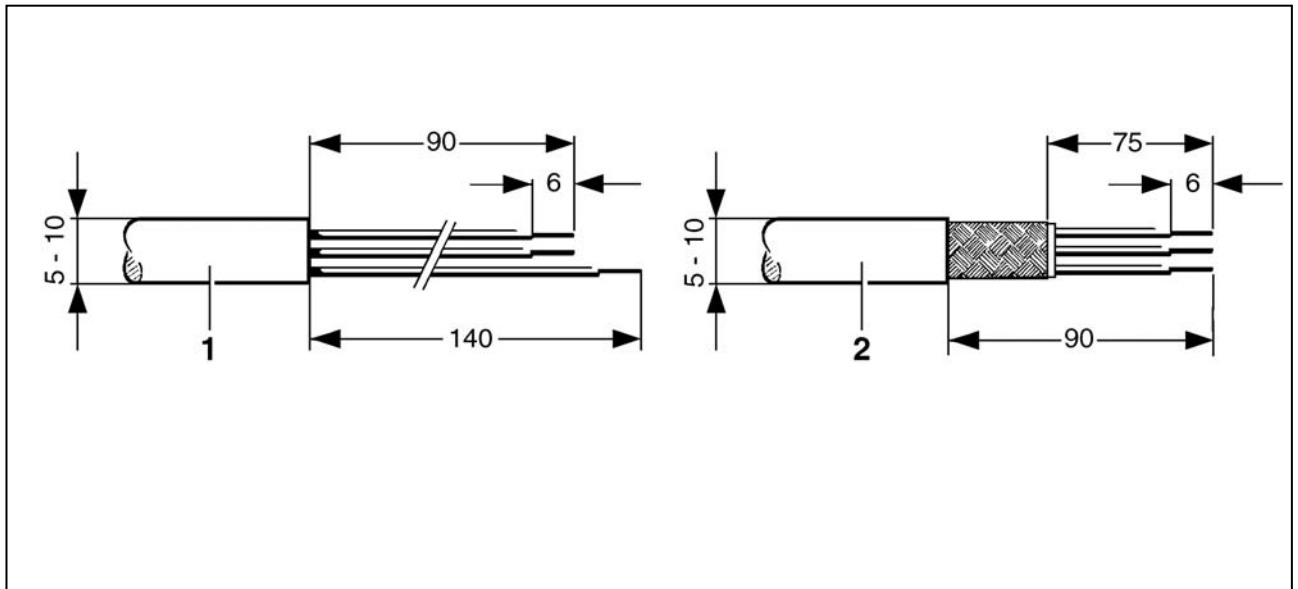

Fig. 8-3 Dimensional information on stripping the cables/leads
- Remove the sheaths of the power supply cable (1) and of the setpoint/actual value cable (2) and remove the insulation of the leads in accordance with Figure 8-3.
- In order to comply with the guidelines, it is essential to make the earth and screening connections according to Figures 8-3, 8-4 and 14-5.
- **Please ensure that the stripped cable ends are according specification (Figure 8-3) to prevent hazard of short circuit or electric shock!**